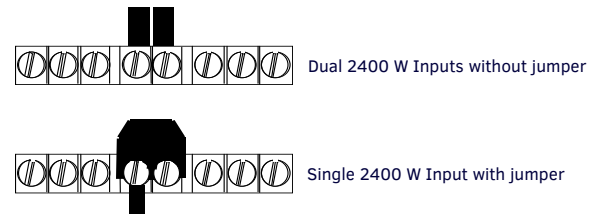

FIG. 3 LINE-IN CONNECTIONS
- Jumping Line 1 and Line 2 provides a single 2400 W input (FIG. 3).